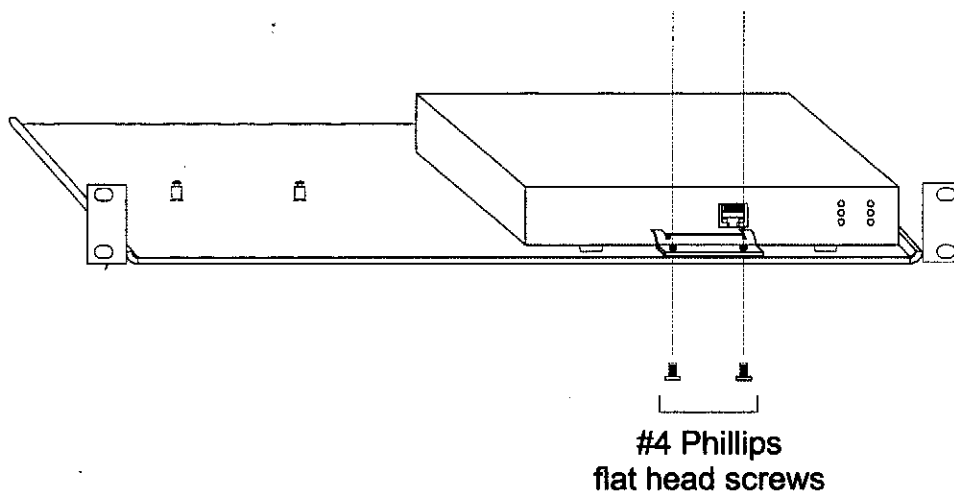

Figure 3-7: Fastening Rackmount Bracket to Rackmount Shelf
6. Using a Phillips #1 screwdriver and the two #4 Phillips flat head screws that came with the bracket, screw the bracket to the shelf. See Figure 3-7 below, for an illustration of how to screw the bracket into the rackmount shelf.